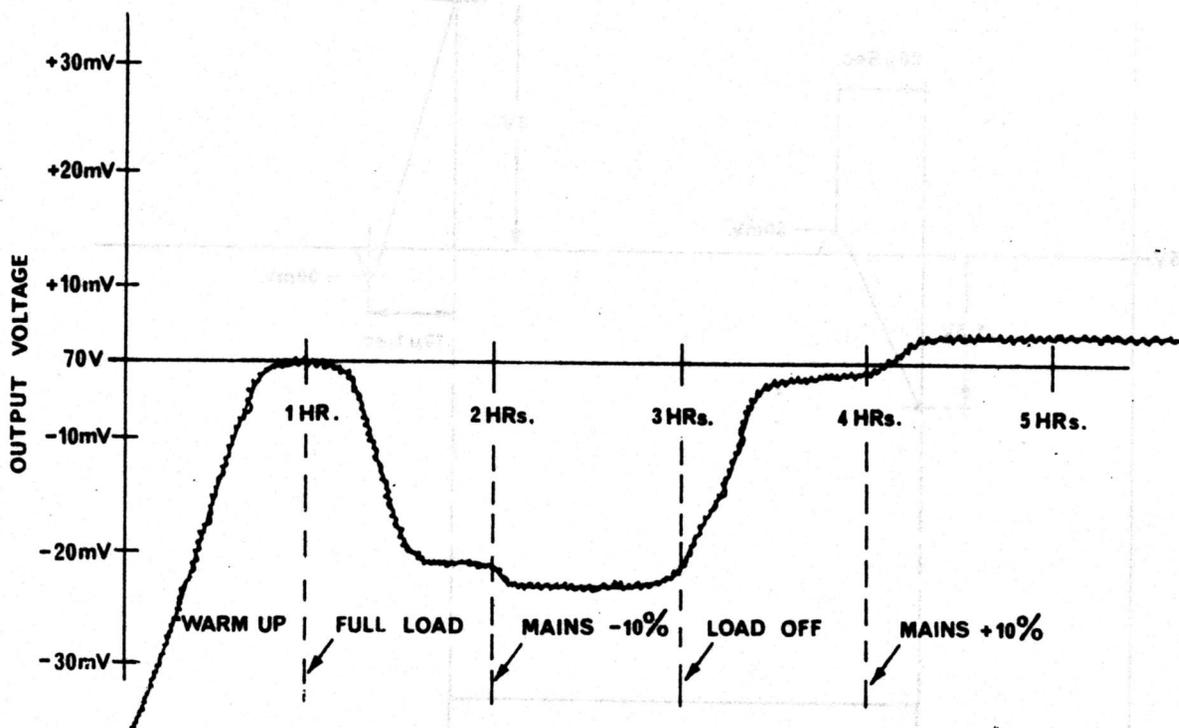

FIGURE 5 - TYPICAL OUTPUT VOLTAGE VARIATION VS TIME AT CONSTANT AMBIENT TEMPERATURE.
- (1) Ambient change - the typical temperature coefficient of output voltage, at constant load and constant mains input is 0.02% per degree centigrade.
- (11) Internal change - a typical plot of output variation against time for changes in mains input and load is shown in figure 5. P.15.